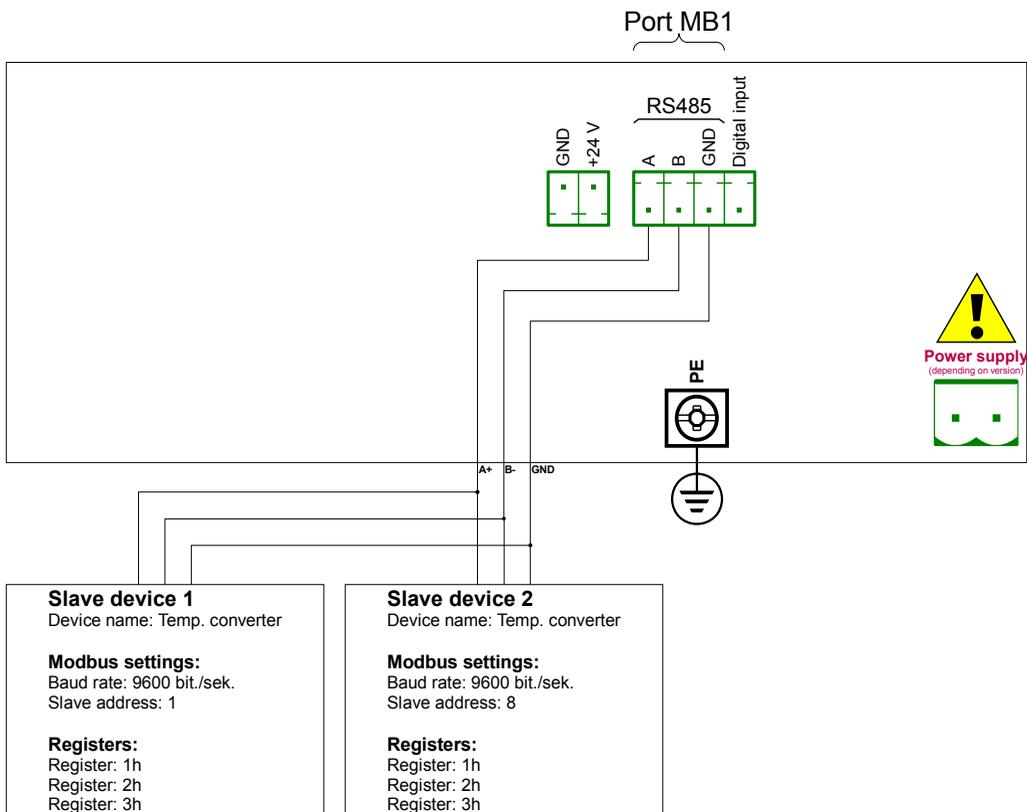

Fig. 7.128. Connection diagram for the Modbus port MB1
First configure the device, then connect the SLAVE device to the MultiCon (in accordance with **Fig. 7.128**).
- using the arrows in the upper right corner choose **Port number: 1 (MB1)** in accordance with **Fig. 7.128**),